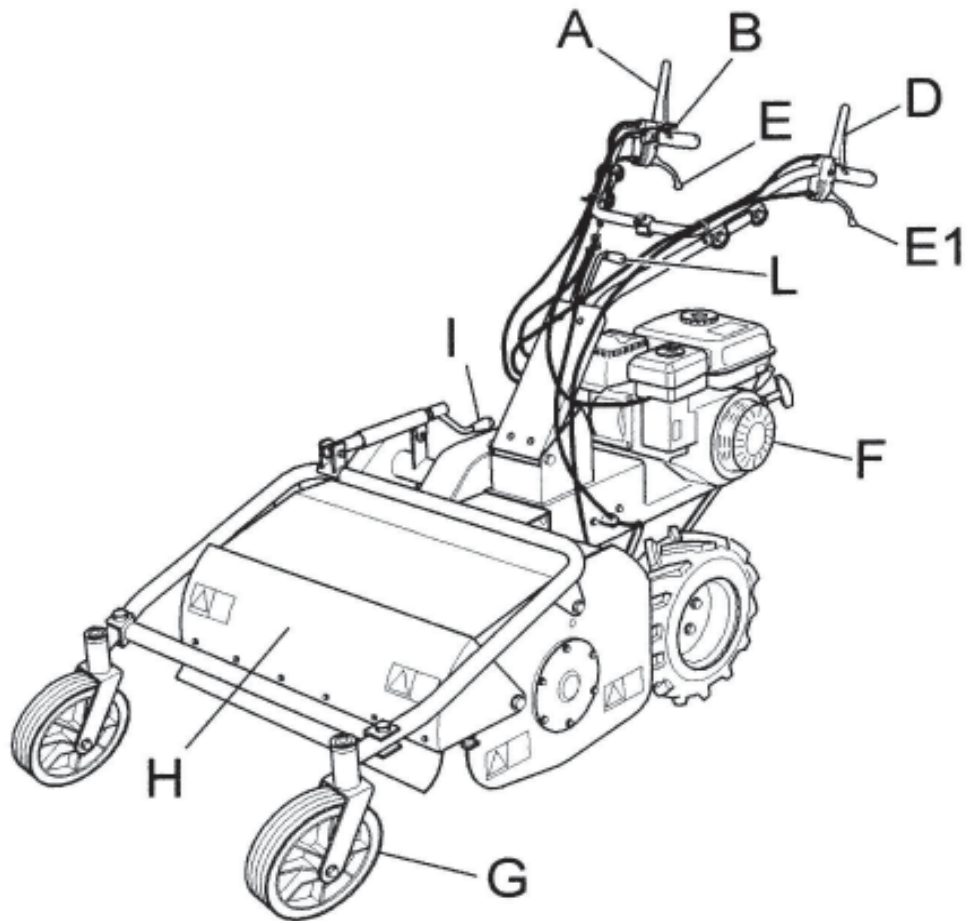
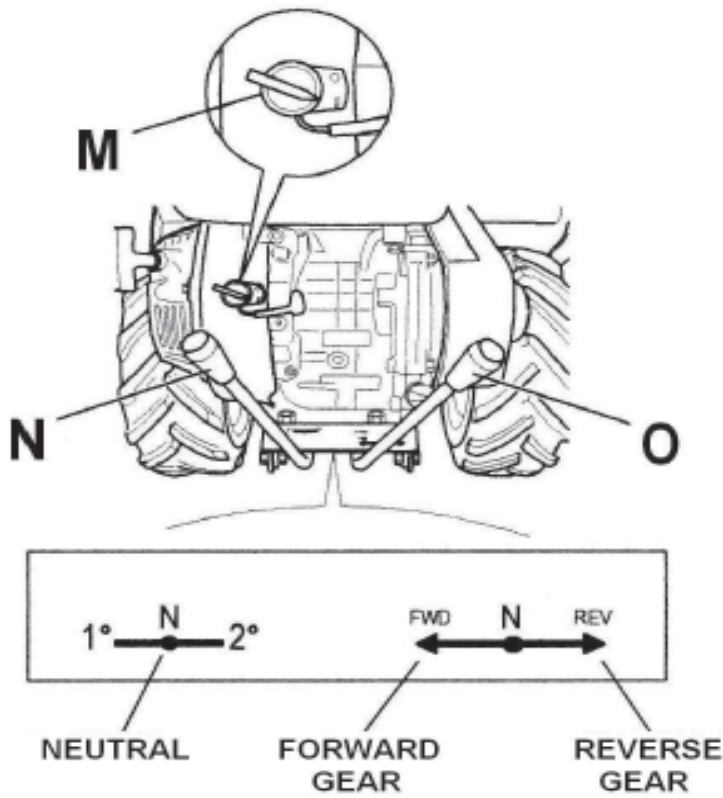

Figure 1
Figure 2
The front guard (Fig. 1 Ref. H) opens or closes automatically according to the amount of grass to be cut. Use of the machine with the guard left open is strictly prohibited. This may cause the outward projection of objects.
This lever is used to select the advance of the machine (forward, neutral, reverse). Used together with the speed selector lever (Fig.2 Ref. N) it gives 2 forward gears and 2 reverse gears.
Before operating the gear lever (Fig. 2 Ref. O) it is advisable to set the speed selector lever (Fig. 2 Ref. N) in neutral (N). The required gear should only be selected after this operation.
*Be sure to set the lever positions correctly (Fig. 2 Ref. N and O), making sure that the levers are correctly engaged; if they are not engage the forward clutch momentarily (Fig. 1 Ref. A) so that the speed setting engages correctly.
- Before switching on the engine make sure that both engagement levers (forward clutch control lever - Fig. 1 Ref. A and flail clutch control lever - Fig. 1 Ref. D) are in the disengaged position (released) ; the service brake will be on automatically; then place the gear lever in neutral (see Fig. 2 Ref.N)
- The guard in front of the flails (Fig. 1 Ref. H) must always be closed while the machine is in use.